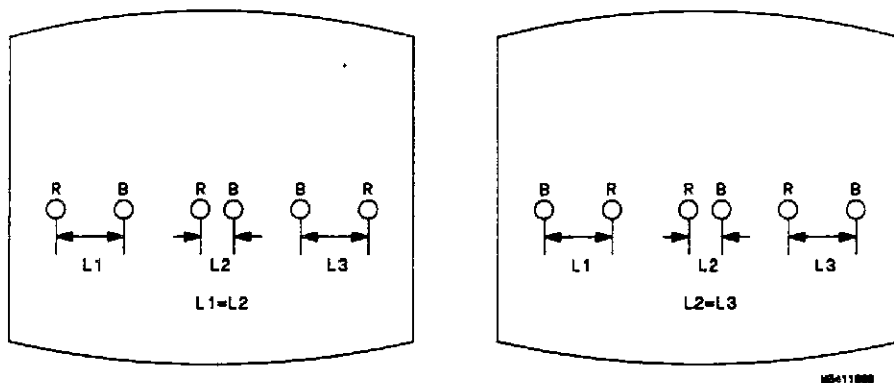

Figure 4-23. H.AMP Adjustment.
- 5. Adjust H.AMP (RV807) on bottom PC board for equal amounts of mis-convergence at right and left sides of screen. See figure 4-23.